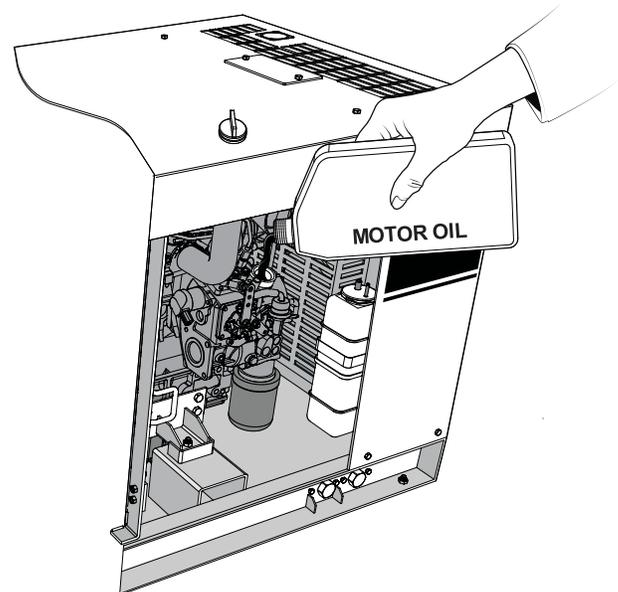

Figure 10. Engine Oil Filler Port
5. If the engine oil level is low (Figure 9C), remove the oil filler cap (Figure 10) and fill to a safe operating level (max.) as indicated by the dipstick (Figure 9A).